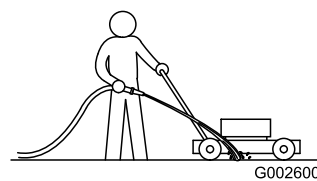

Figure 47
1. With the engine running on a flat paved surface, spray a stream of water in front of the **right** rear wheel (Figure 47).